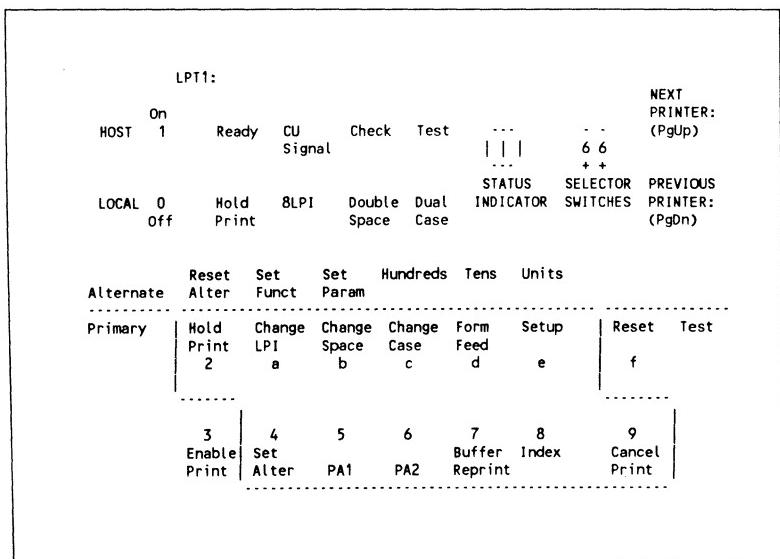

Figure 5-2
5. Press [1] to logically turn the printer on. (You must turn the physical printer on in the usual way.) The switch portion of the 3287 front panel will now appear on the screen, which will look like the one shown in Figure 5-2. The printer is now set up for host operation.
If you subsequently select *printer control mode*, the screen exemplified in Figure 5-2 will reappear. You may switch the printer off, or read the status indicator, or perform any of the functions associated with a real 3287.